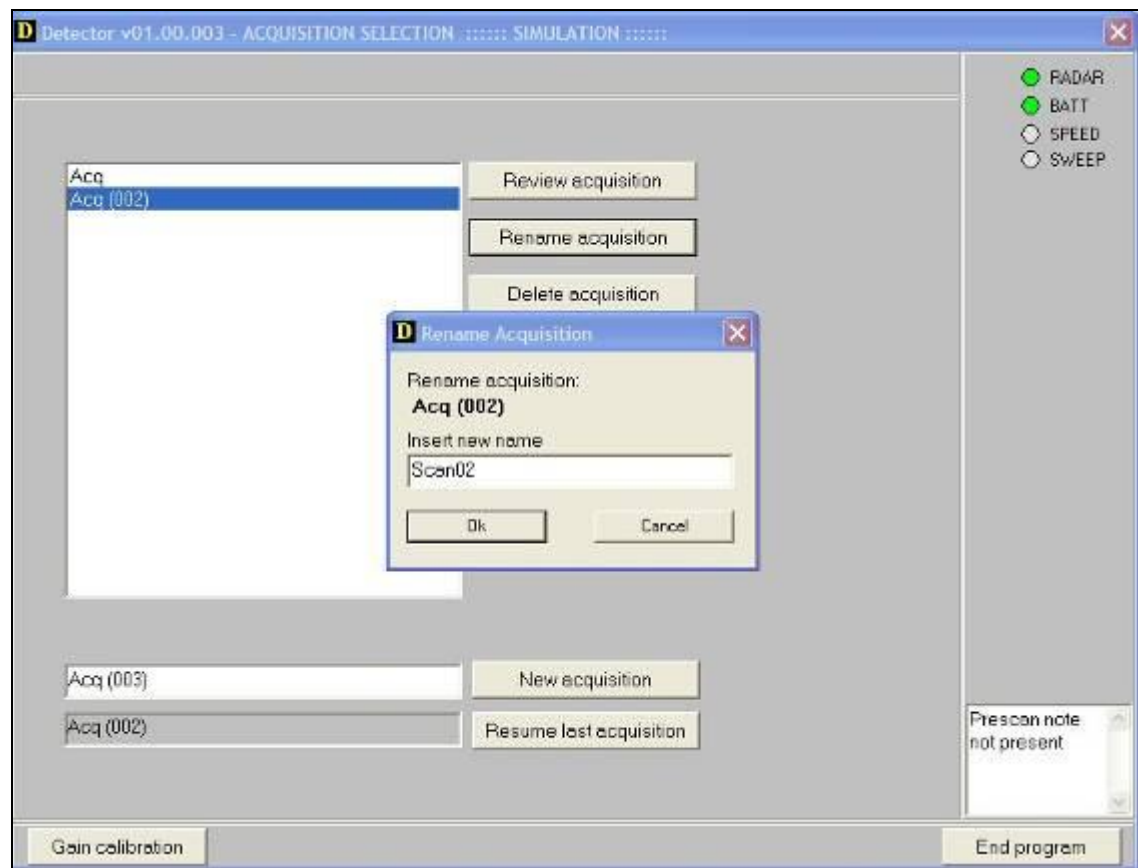

Fig. 5.23 – How to rename a survey
- By pressing the  button, the last survey can be reloaded to continue performing further scans in it (Fig. 5.23).